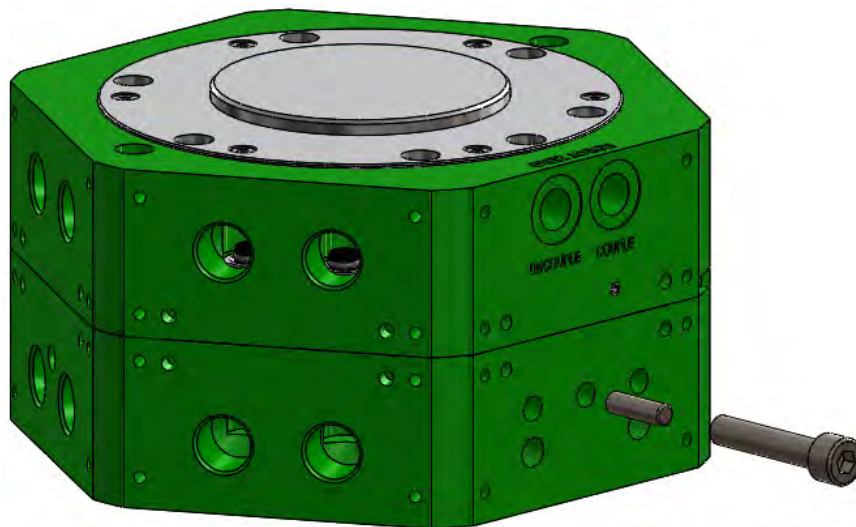

Figure 7.4-1. Manual Uncouple Feature
4. Insert a 6mm OD x 20mm long shaft followed by a M8x40mm long socket head cap screw in the hole as shown in Figure 7.4-1. This requires any tool side modules to be removed.